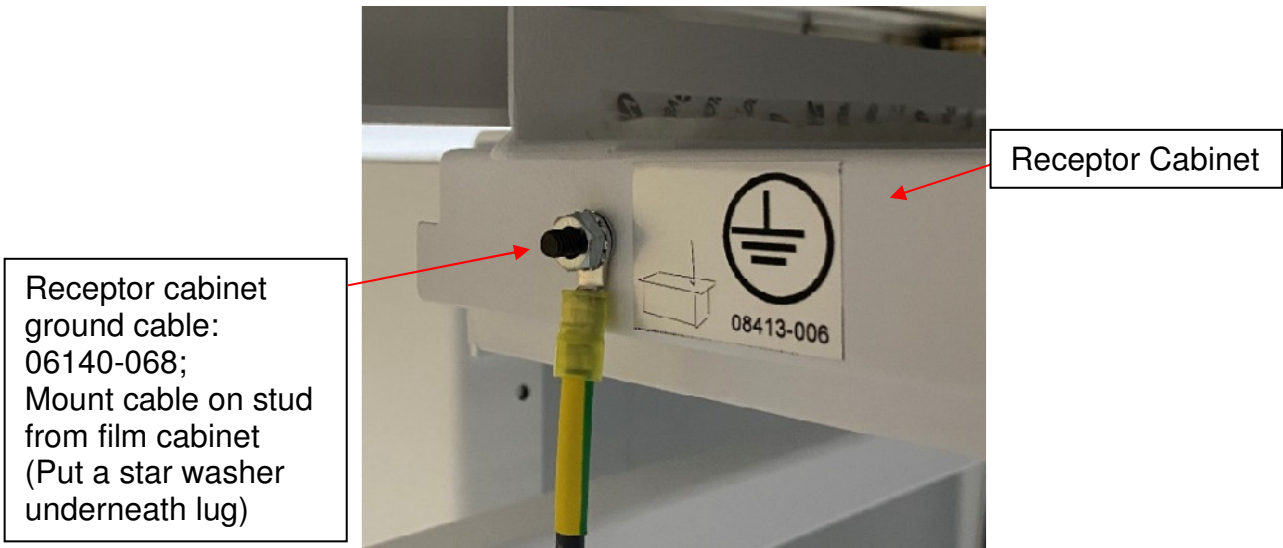

Figure 16: Receptor cabinet ground cable
4. Install the high voltage cables to the X-Ray tube. Route high voltage, collimator, stator, and tube arm ground cables as shown in Figure 16 below. Be sure to leave enough slack in the cables to allow the tube arm to move fully up and down.